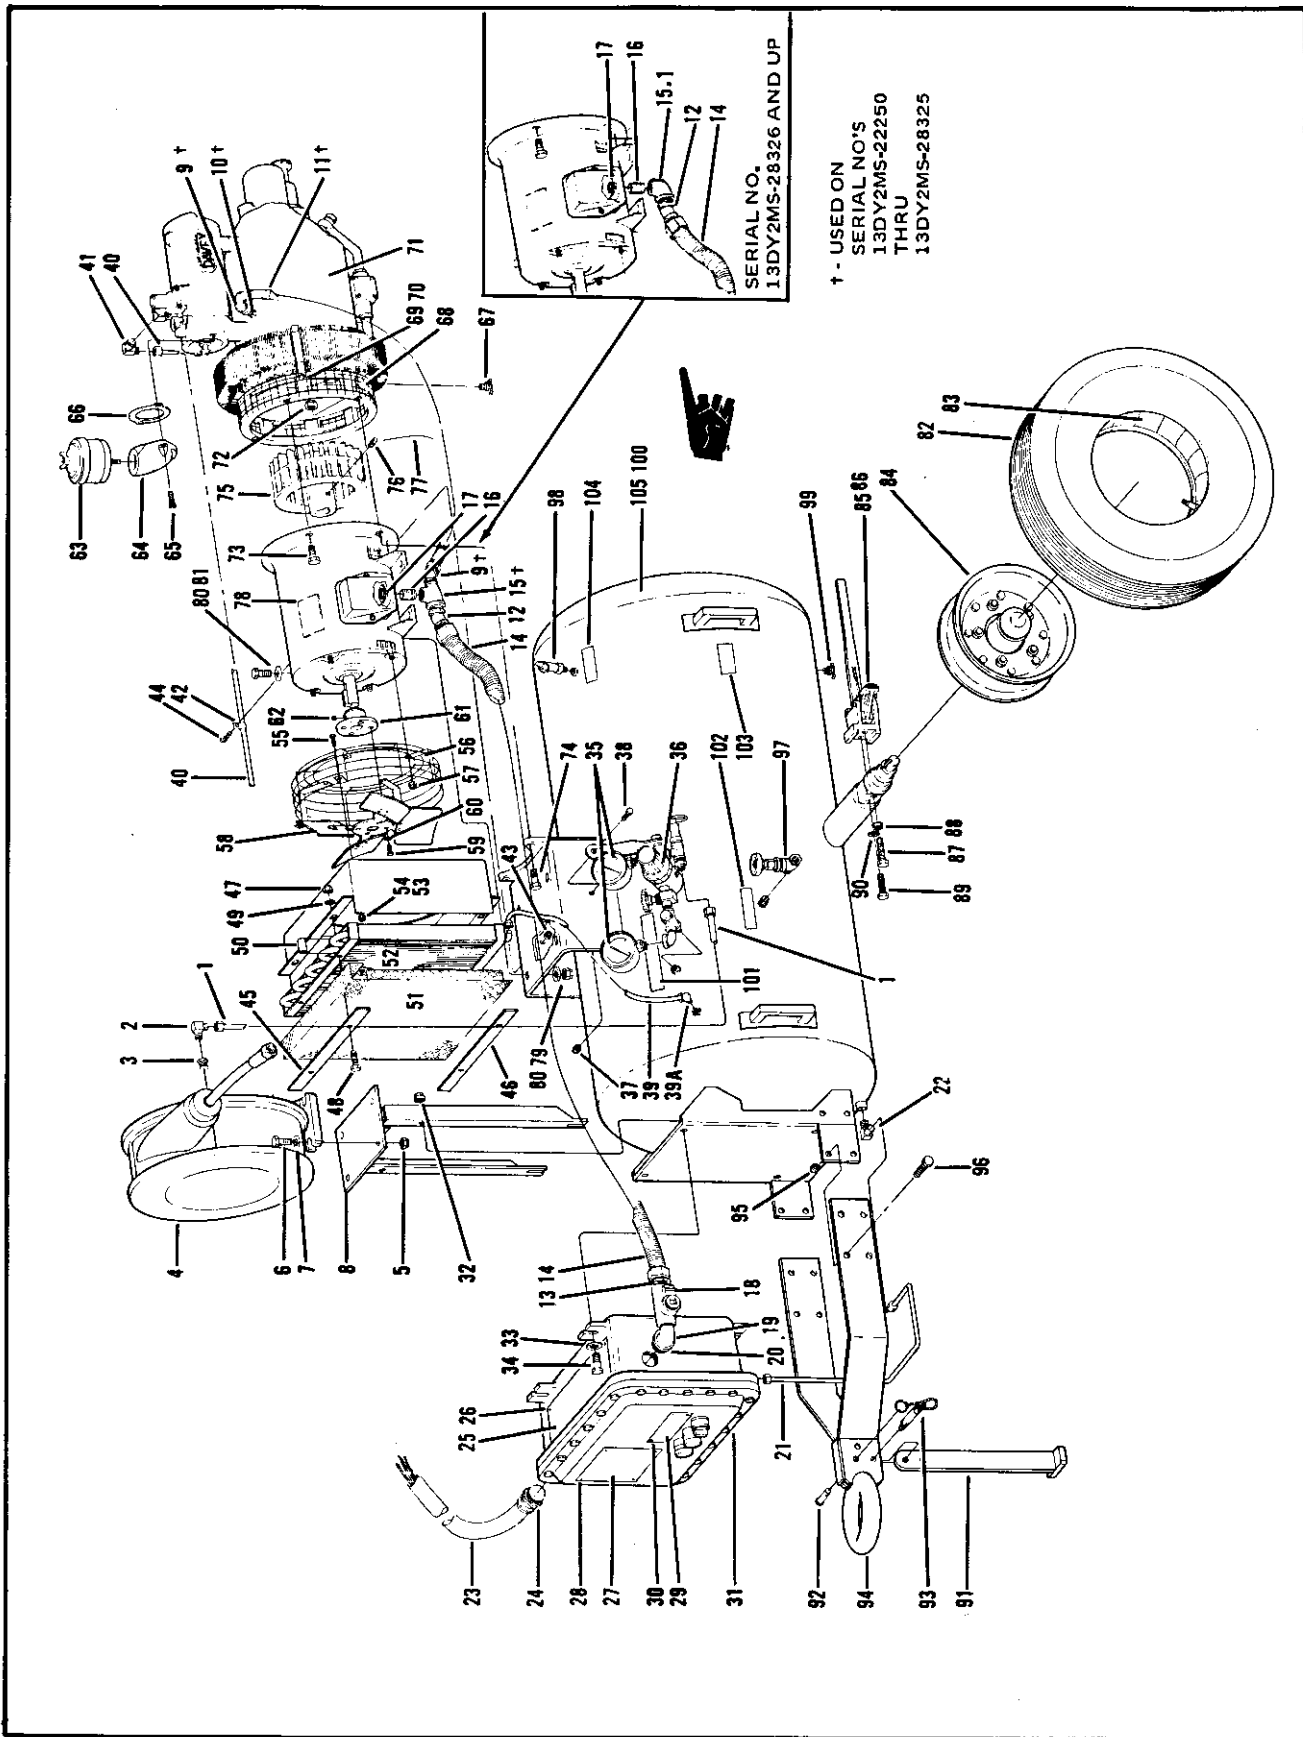
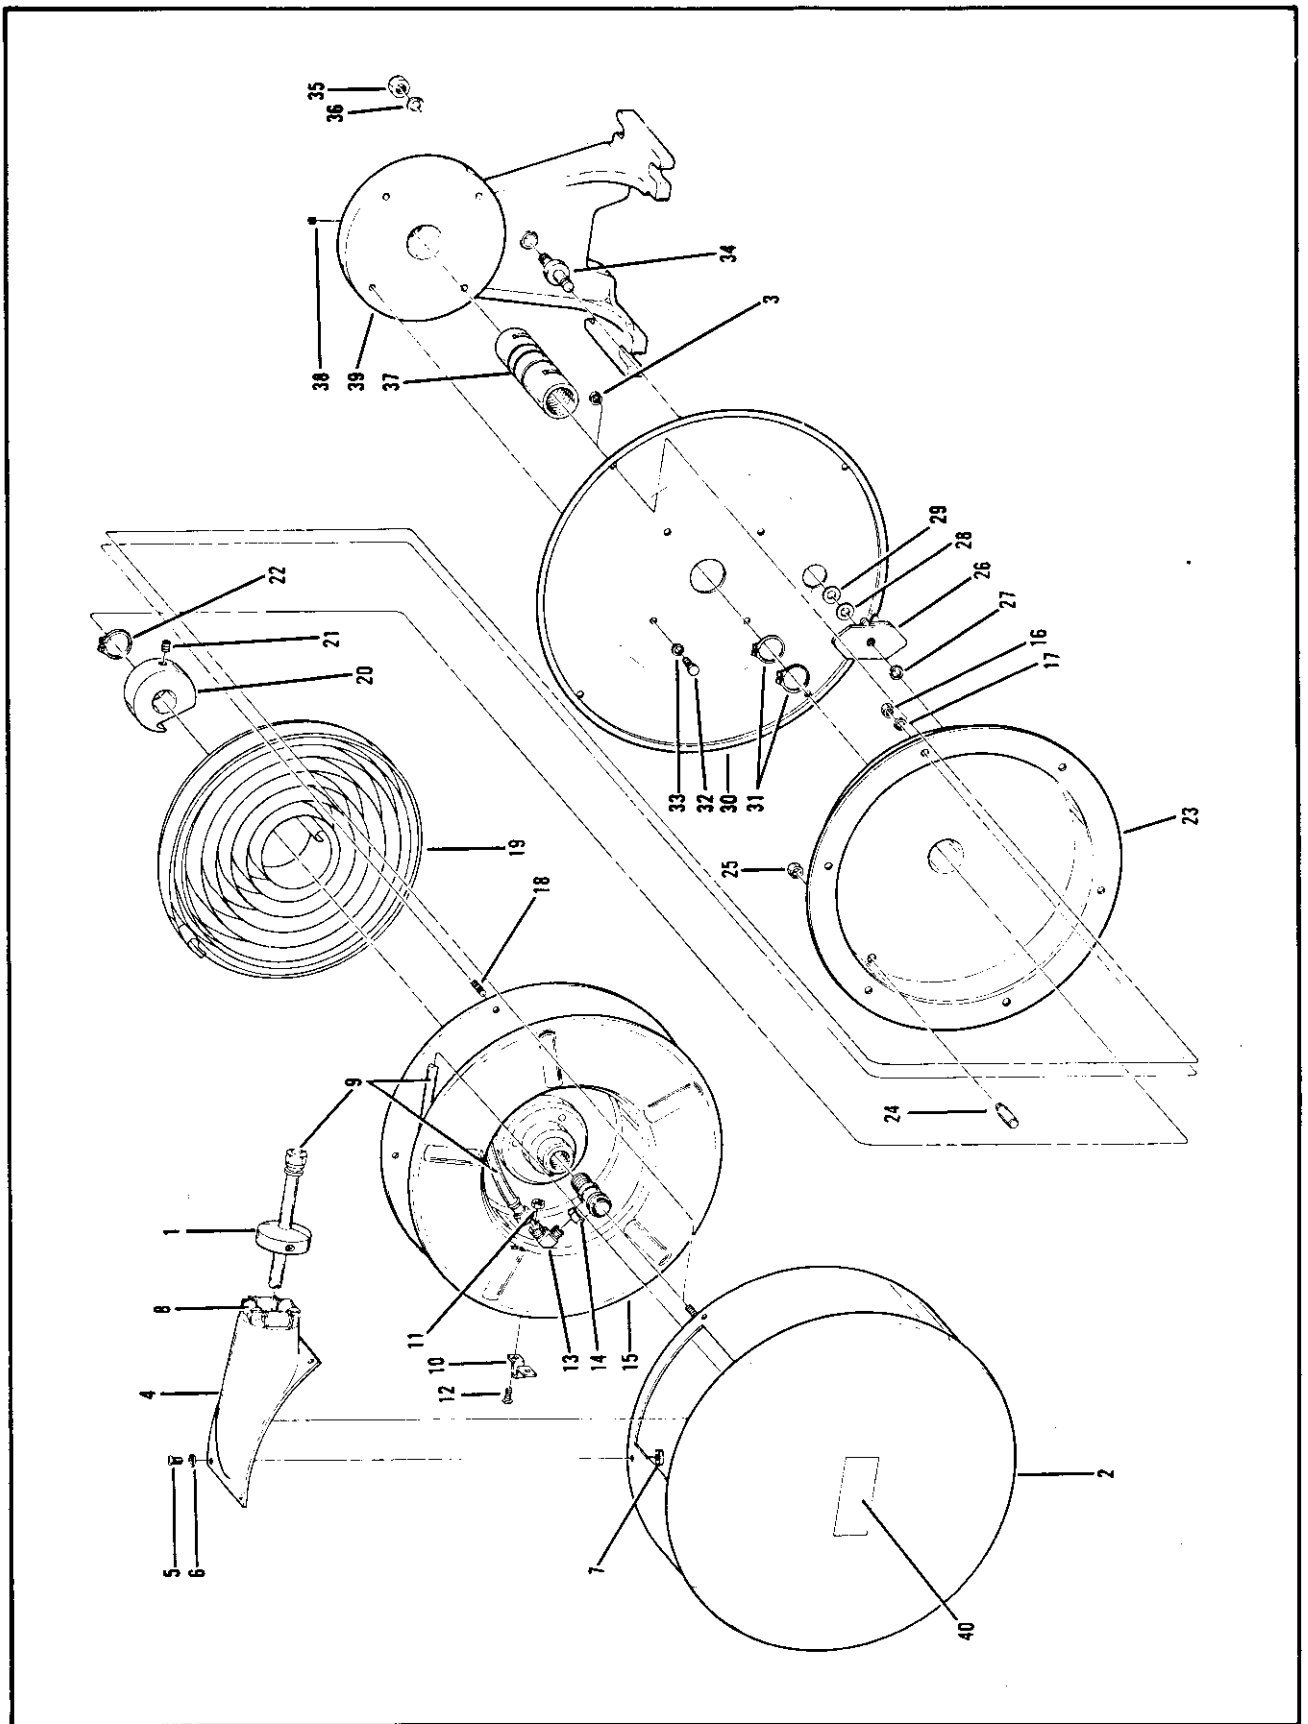

Figure 3-1. Air Compressor Assembly, Type MB-2A, Model 4MB-2A
Figure 3-2. Hose Reel Assembly
- c. Open receiver drain valve (97, figure 3-1) to make certain all air pressure is relieved from the unit.
- e. Unscrew wing nut, with stud, on top of air cleaner assembly (63, figure 3-1) and remove the oil bath type air cleaner. Separate the cover assembly from body, remove the element, discard oil, assemble the air cleaner back onto air cleaner elbow (64) until ready for maintenance (covered in a later paragraph).
3-2. DISASSEMBLY OF MAJOR COMPONENTS (Figure 3-1). Disassemble the major components as follows:
KEY to figure 3-1:
- f. Disconnect and remove tube assembly (39) from receiver and aftercooler. It is not necessary to remove elbow (39A) from receiver unless replacement is necessary. Disconnect tube assembly (40) from compressor discharge elbow (41) and aftercooler. Remove lock nut (43), cap screw (44) and tube clamp (42) that secures tube assembly (40) to receiver motor mounting bracket. Remove discharge elbow (41), as necessary.
- g. Remove four lock nuts (47), flat washers (49), cap screws (48), spacers (50), two grill clamps (45, 46), and the aftercooler grill (51) and aftercooler (52). Remove four lock nuts (54), cap screw (55), and the fan shroud (53). Remove four cap screws (59), lock washers (60), and the aftercooler fan (58). Remove four lock nuts (57) and the fan guard (56) from motor studs. Assemble the nuts back on motor studs to prevent their loss. Loosen setscrew (62) and pull fan hub (61) off motor shaft. Tape key to motor shaft to prevent its loss.
- h. Unscrew air cleaner assembly (63) wing nut with stud and remove the air cleaner assembly (63). Remove two socket head cap screws (65), air cleaner elbow (64), and elbow gasket (66). If necessary, remove drain cock (67) from compressor oil cooler. Remove four machine screws (69), lock washers (70), and impeller guard (68). Assemble the lock washers (70) and machine screws (69) back on compressor cooler clamps to prevent their loss.
- i. Attach suitable lifting device to air compressor assembly (71). Remove four lock nuts (72), two 1-1/2-inch cap screws (73) and two 1-3/4-inch cap screws (74); remove compressor assembly (71) from unit. Refer to paragraph 3-6 for compressor disassembly.
- j. Cut, remove and discard lock wire (77). Loosen two setscrews (76) and remove impeller (75) from motor shaft. Tape key to motor shaft to prevent its loss.
- k. Attach a suitable lifting device to the motor assembly (78). Remove four locknuts (79), cap screws (81), and eight flat washers (80). Remove the motor assembly (78) from the unit. Refer to paragraph 3-10 for motor disassembly.
- l. To further disassemble the remaining components, place the receiver assembly (105) on a suitable stand, such as metal horses, and block the receiver to prevent rolling or turning on the stand. Remove the hub caps (1, figure 3-10), cotter pins (2), spindle nuts (3), spindle washers (4) and remove the two wheel assemblies (84, figure 3-1) with tires (82) and tubes (83) remaining with wheel assemblies (84). Refer to paragraph 3-11 for wheel and hub disassembly.
- m. Remove brake adjusting bolts (87), jam nuts (88), cap screws (89), lock washers (90) and the two brake assemblies (85, 86) from the receiver axle stub shafts. Refer to paragraph 3-12 for brake disassembly.
- n. As necessary, remove towbar prop pin and chain assembly (93), pin (92), and towbar prop (91). Remove eight lock nuts (95), cap screws (96) and towbar assembly (94). Unscrew and remove receiver drain valve (97), safety valve (98), and drain cock (99). The two pipe plugs (100) in the receiver tank and decals (101, 102, 103, 104) need not be removed from receiver assembly (105) except for replacement.
3.3. HOSE REEL DISASSEMBLY (Figure 3-2). Disassemble the hose reel assembly as follows:
- a. Remove the hose bumper (1) from the air service hose assembly (9). Remove four nuts (3) that secure the cover and case assembly (2) to the reel cover (30). Pull off cover and case assembly (2).
KEY to figure 3-2:
- c. Where used, disconnect compressor thermoswitch lead number 14 from control relay (41) terminal number 6 and lead number 17 from terminal block (32). Disconnect motor lead numbers 13, 15, 16 from overload relay (57) terminals T1, T2, T3. The sealing fitting (18, figure 3-1) may now be removed from the elbow (19, figure 3-1), withdrawing the wires carefully through side of control box.